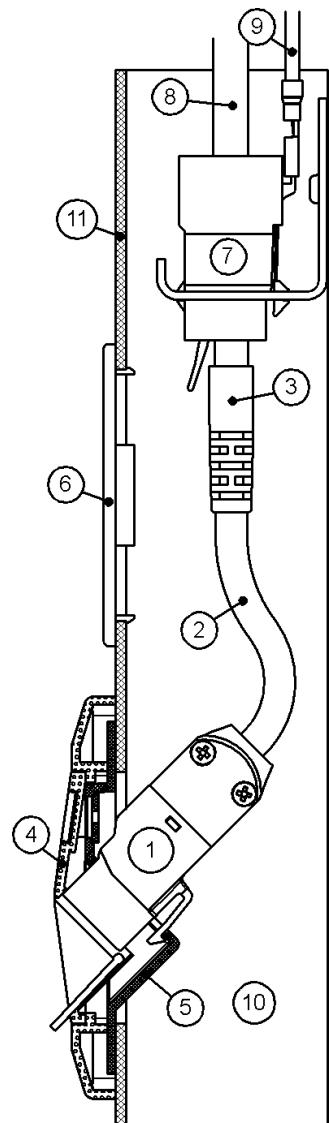
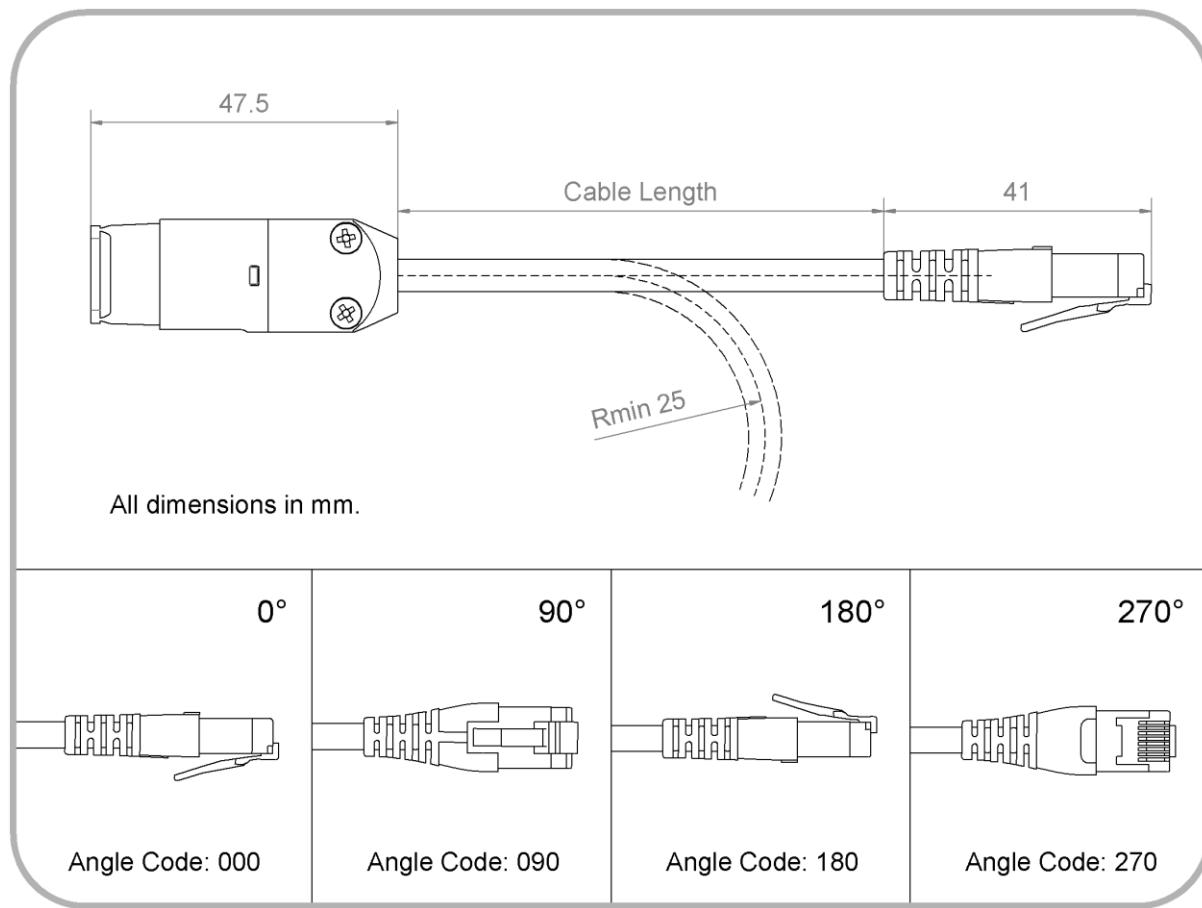
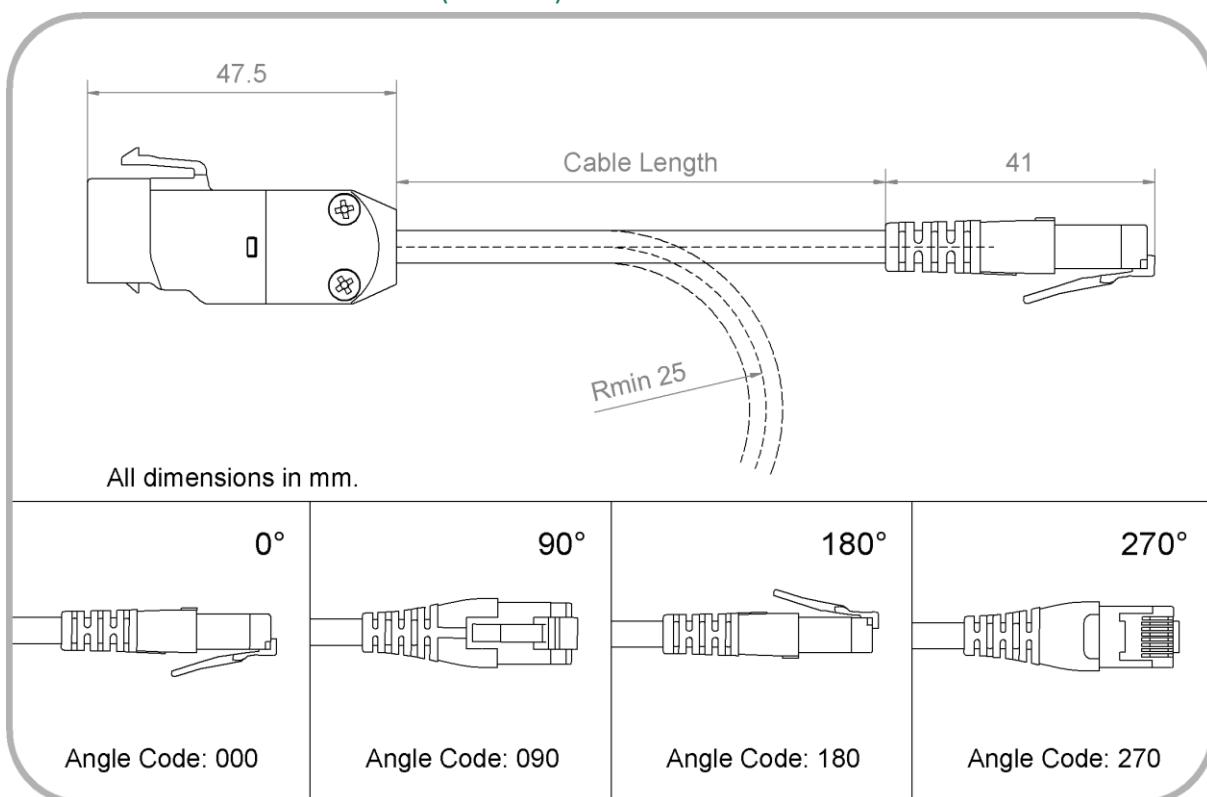

Figure 6
Figure 8. Technical drawing for EN-65S, showing definition of cable length, as well as angle codes.
Figure 9. Technical drawing for EN-65K, showing definition of cable length, as well as angle codes.
Figure 6 shows a typical assembly within a cable duct **10**, with cover **11**. The Network Isolator EN-65K **1** is shown installed in a Keystone-compatible wall outlet, which usually consists of a support frame **5** and a plastic front panel **4**. The RJ45 plug **3** of the Network Isolator is to be inserted into a RJ45 jack module termination **7** at the end of the permanently installed data cable **8**. When retrofitting the Network Isolator EN-65K **1** into network channels, the existing RJ45 jack module from the wall outlet can be shifted back within the cable duct **10**, and used as the connection to the Network Isolator.
The transmission properties of permanent network installations fitted with EN-65 Network Isolators can be checked with cable certification devices which are suitable for testing electrically isolated cable sections. To be able to conduct such an inspection, the test equipment must be configured in an AC wire-map mode. The entire cable route, including the Network Isolator, can be tested to EIA/TIA-568 Cat.5e or ISO 11801 Class D. Testing of the cable shielding and the conductor resistance is not possible in this mode. If however, these tests are required, or if the quality of the cable route itself needs to be tested (without the Network Isolator), then testing can be performed by bypassing the Network Isolator, and connecting directly to the RJ45 socket ⑦, set back within the cable duct, as indicated in Figure 6.
The length of the flexible cable stub (2) (see Figure 6 in section 7.1) of the EN-65 Network Isolator is available in selected lengths from 30 mm to 10 m (inclusive). Refer to Figure 8 and Figure 9, as well as the table in section 10.4. It is recommended that this length be kept to a minimum. When compared to a fixed installed cable, this flexible cable stub may be more susceptible to near end crosstalk (NEXT) and alien crosstalk (AXT). The flexible cable stub itself generates a small, but length-dependent amount of insertion loss (IL).
For flexible cable stub lengths between 30 mm and 500 mm (inclusive), the plug angle can be chosen, easing mechanical constraints in certain assembly configurations, and removing impermissible torsion strains from the cable assembly. Refer to Figure 8 and Figure 9. The manufacturing tolerance for the plug angle is $\pm 20^\circ$.
When placing orders for EN-65, please specify the exact Order Code (OC). The order number is a hyphenated concatenation of the Article Number (A10068 for EN-65K, or A10069 for EN-65S), the Length Code for the desired cable length (see section 10.4 above), and the Angle Code for the desired plug angle (see Figure 8 and Figure 9). For flexible cable stub lengths greater than 500 mm, the EN-65 will always be manufactured with a plug angle of 0°, and the Angle Code can be omitted for such orders.